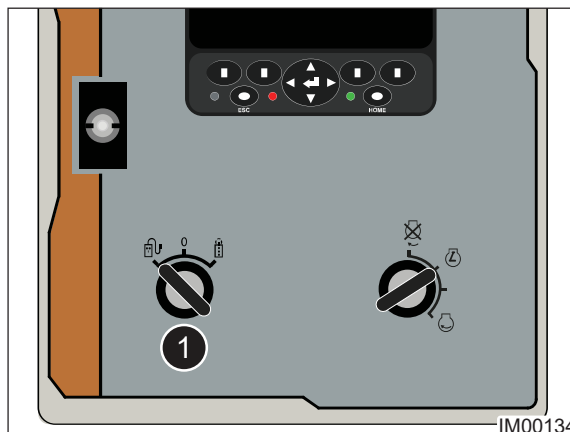

Fig. 6.5 - Track Switch - Umbilical Position
6. Rotate the handset switch Counter-Clockwise to the Umbilical position (Item 1, Fig. 6.5).
- Rotate the Handset Switch (Item 1, Fig: 6.5) to the Off/Neutral position.
(1) Umbilical Handset - Direction Of Travel